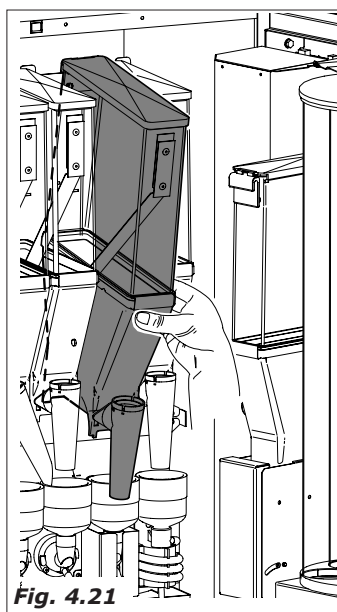

Fig. 4.21
- remove all the product containers from the distributor (Fig.4.21)